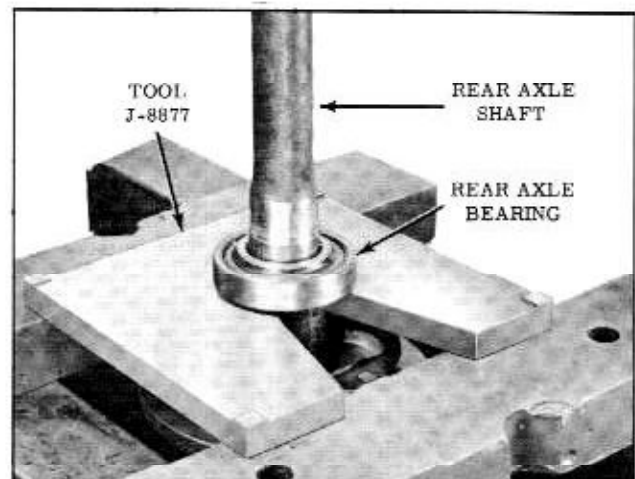

Figure 6-27 Removing Axle Bearing
2. With Tool J-8877 press bearing off shaft. (Fig. 6-27)